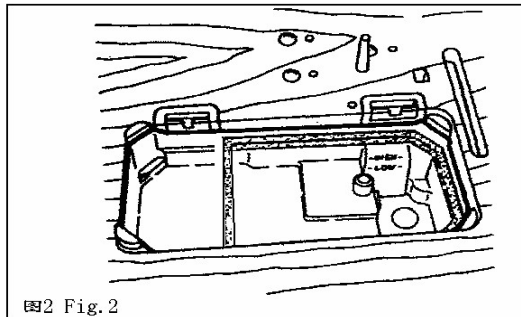

图2 Fig.2
### 5、Oiling (Figs.2 and 3)
1. Oiling shall be made in oil reservoir and the oil surface also be made to level the mark "High" before the machine is started running (Fig.2)